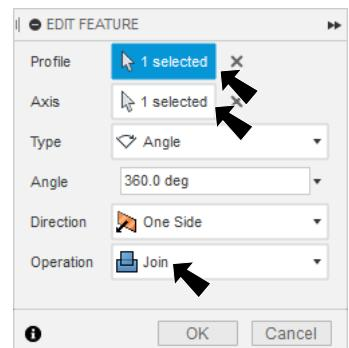

Fig. 30
Step 14. In the Edit Feature panel set, Fig. 30